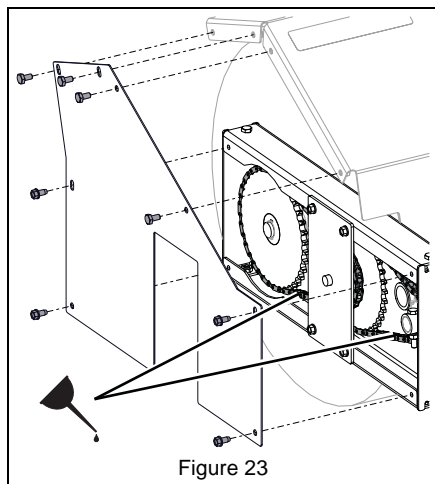

Figure 23
1. Remove hardware retaining left brush cover and remove cover. See Figure 23.